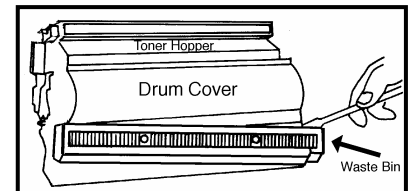

Figure 3
7. Remove the waste bin from the cartridge shell (Fig. 3). Lift the waste bin by the right side using a flat head screwdriver and jockey it out by lifting up and to the right. Clean the waste bin: